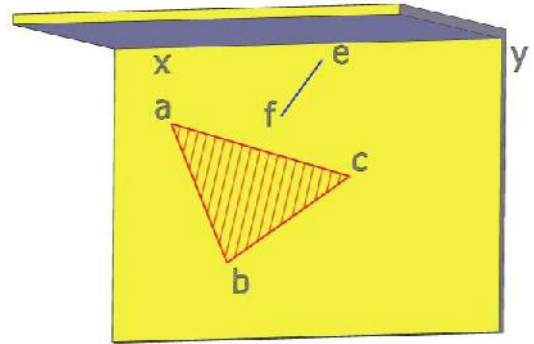

Figure 2a
2. A line in space is heading in the direction of a triangular plate as shown in the sketch of Figure 2a.